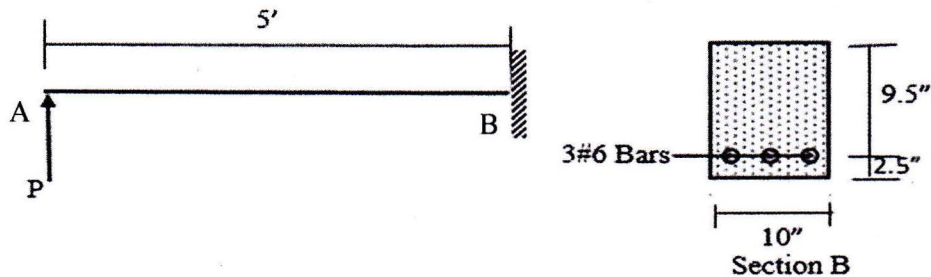

Figure 3
3. Compute the load P that will produce the first crack at the section B of the RC cantilever beam AB shown in **Figure 3**. Consider self-weight of beam for your calculation. Given, $f'_c=4$ ksi, $f_y=60$ ksi [7]